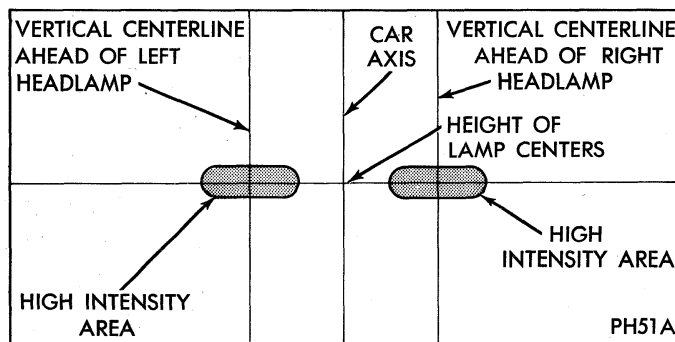

Fig. 11—High Beam Adjust Pattern
(1) A properly aimed upper beam of 5-3/4 round (Type 1, marked "1" on lens) or 4 x 6.5 inch (100 x 165 mm) rectangular sealed beam (Type 1A marked "1A" on lens) will appear on the aiming screen 25 feet in front of vehicle. The shaded area as shown in Figure 11 indicates high intensity zone.
(2) Adjust high beam of headlamps to match the high beam patterns of right and left headlamps in Figure 11.